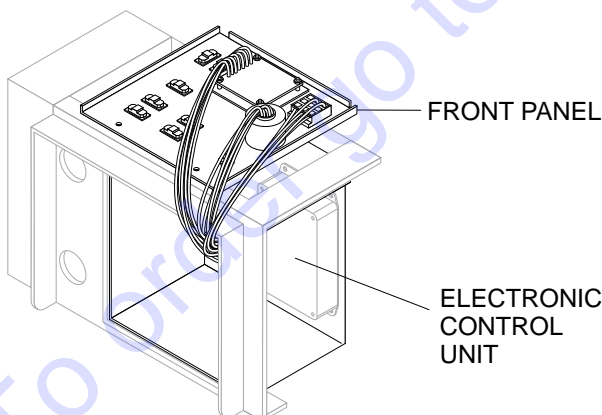

Figure 31. Pulling Out Control Panel
2. Tilt and slowly pull out the control panel and place on top (Figure 31) of control box to gain access inside the box.